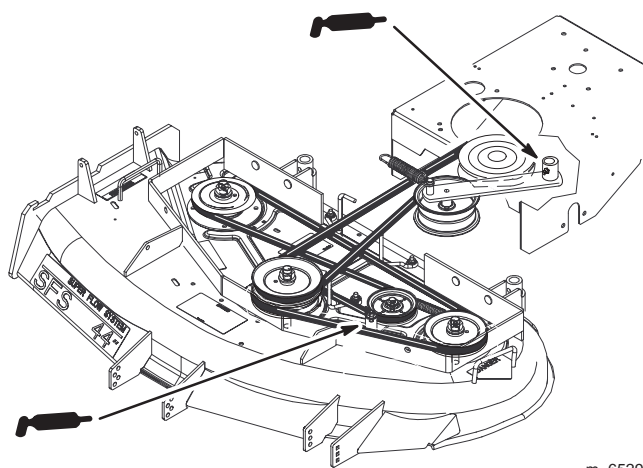

Figure 33
2. Grease the idler pulley pivots (Fig. 33).